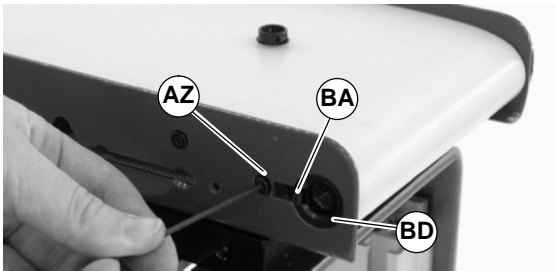
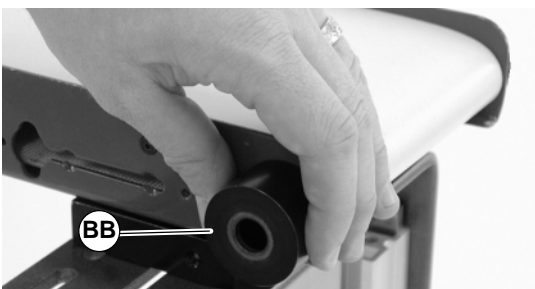
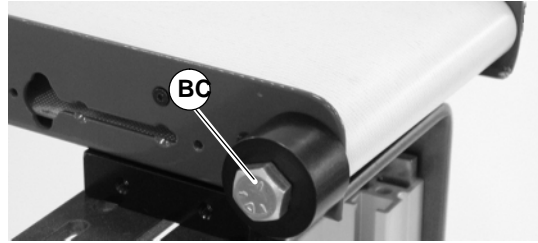

Figure 33
Figure 34
Figure 35
3. Loosen but do not remove screw (AZ of Figure 33). Push until pulley retaining sleeve clip (BA) pushes out.
4. Remove retaining clip (BA) and screw (AZ).
5. Position bearing anvil/sleeve removal tool (BB of Figure 34) (25-09, part of tool kit 4500) over retaining sleeve (BD of Figure 33).
6. Insert bolt (BC of Figure 35) (906-278, part of tool kit 4500) into retaining sleeve (BD of Figure 33).